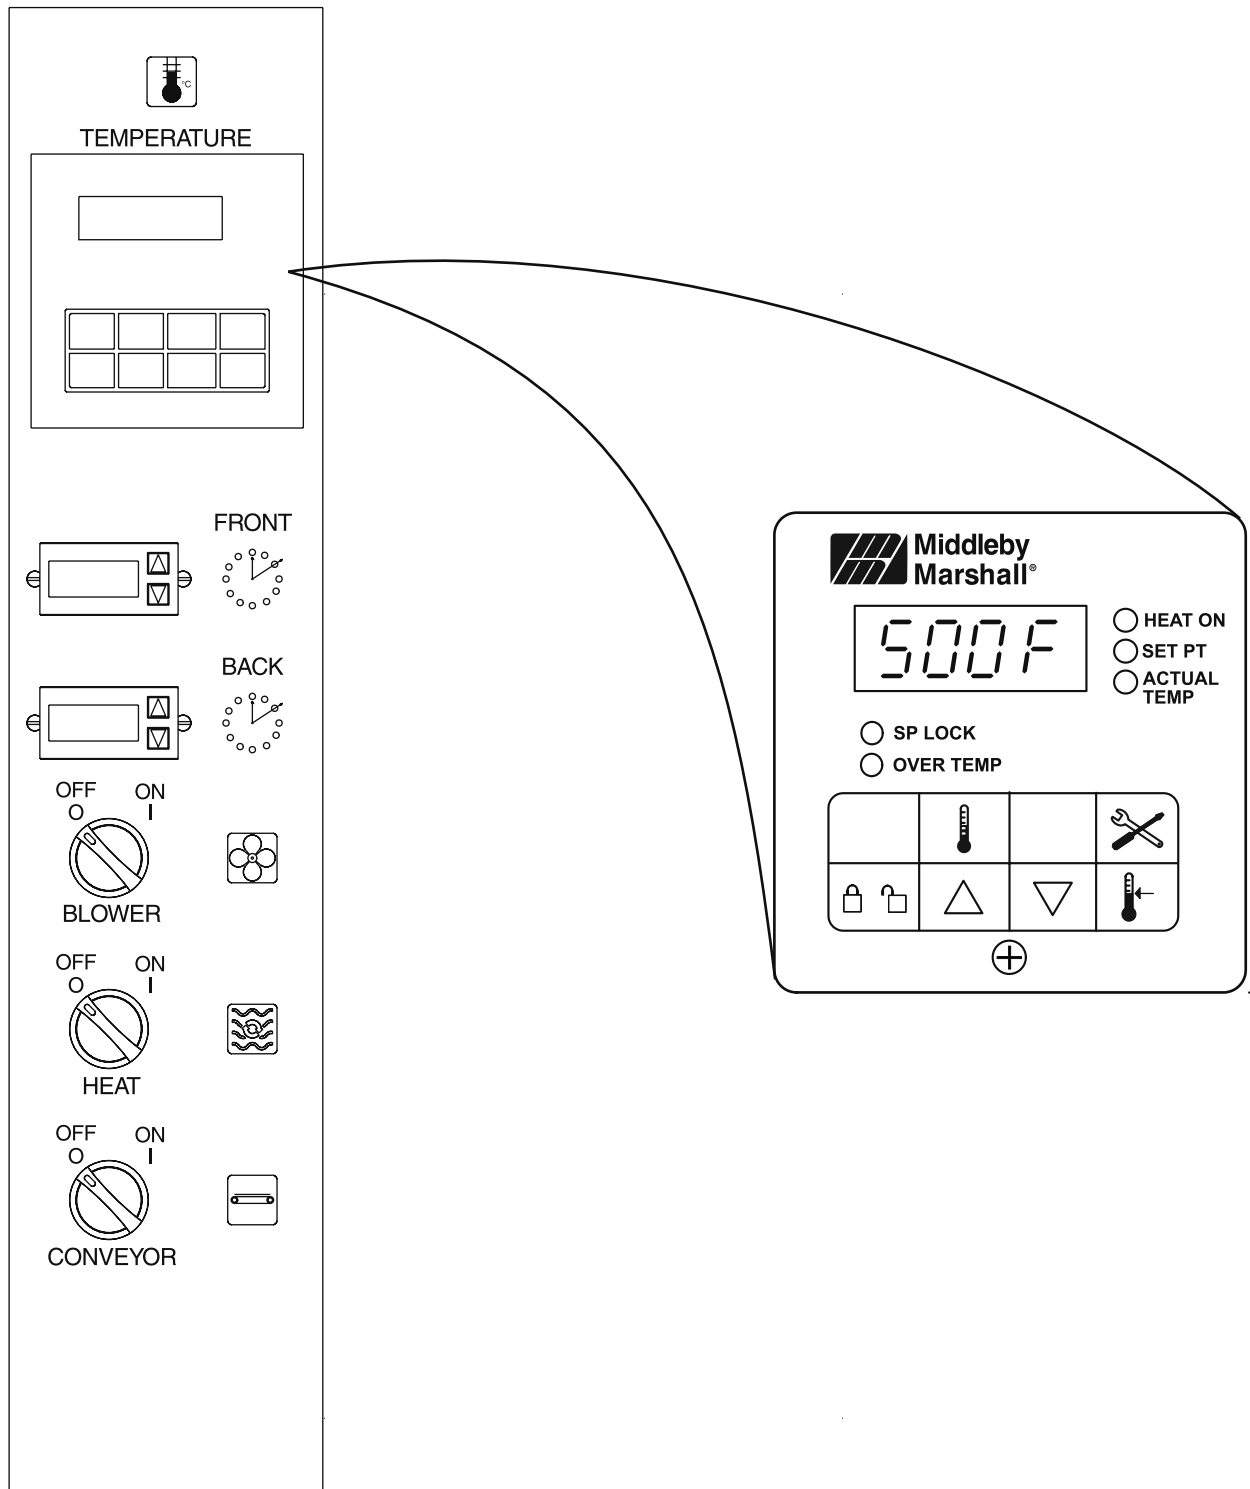

Figure 3-6. Control Panel
1. Turn the BLOWER switch (Figure 3-6) to the “ON” or “I” position. This starts the main blower fan and the cooling fan. The blower circulates air through the air fingers and must stay on during the cooking or baking process.
2. Check to see if the cooling fan (see Figure 1-8) is operating when the blower switch (see Figure 3-6) is turned “ON” or “I”. The cooling fans cool the control components and burner blower motor. The cooling fan, located at the rear of the electrical control cabinet blows air into and through the cabinet. Air is exhausted through the front of the cabinet and also out the front of the oven. Refer to Daily Maintenance Section for fan intake checking procedure.
3. Turn the CONVEYOR switch (Figure 3-6) to the “ON” or “I” position. This starts the conveyor belt moving through the oven. Set the conveyor speed for the desired baking time. Refer to the following Procedures E, F and G.
5. Turn the HEAT switch (Figure 3-6) to the “ON” or “I” position. This completes a circuit to supply electric power to the burner. When an oven that has not been in operation for approximately 1/2 hour is turned on, it goes through a 30-second purge cycle. The burner blower motor will not operate during the time the blower fan is purging the oven. After 30 seconds, the burner blower motor starts, which can be detected by feeling a slight vibration when touched. This permits the burner to light.